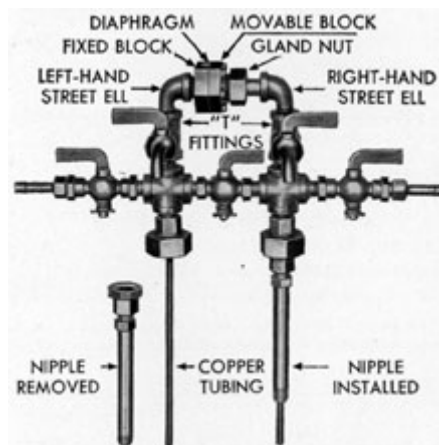

Figure 5-45. Piping assembly, new installation.
assembly as shown in Figure 5-45. This is a safety feature which protects the bellows when the pressure difference across the bellows exceeds approximately 25 pounds per square inch. Such a difference will occur if a hose should blow off, or if the unit is vented incorrectly when submerged. When the pressure difference exceeds 25 pounds per square inch, the diaphragm will rupture,
**5L2. Modifying the control unit piping assembly.** (See Figures 5-45 and 5-46.) Modify the control unit piping assembly as described in the following steps:
**5L4. Replacing a damaged diaphragm.** (See Figure 5-45.) Hold the movable and fixed blocks with a wrench, and loosen the gland nut. Remove the two top screws from the movable block, and loosen the remainder of